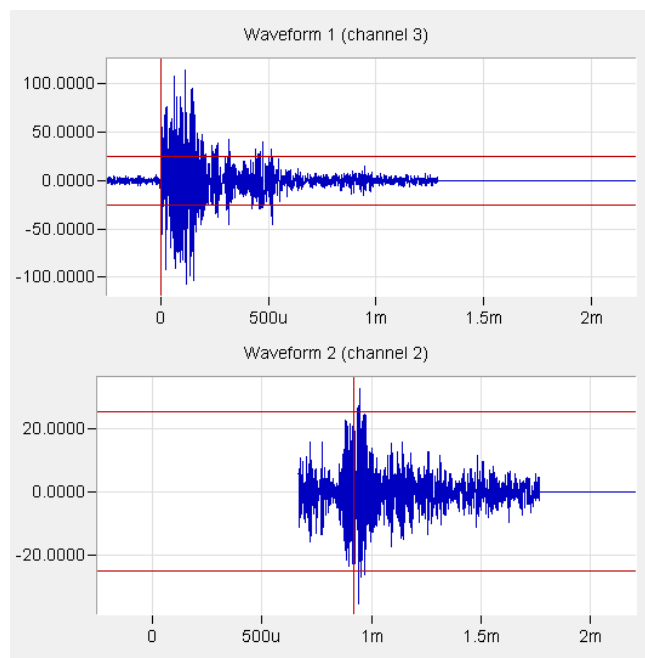

Figure 5. Example of AE event location along a piping section using two sensors.
3. **Location:** Linear time-difference of wave arrival locations are performed to evaluate source location whenever is practical. In other cases zone location is performed (Figures 5 and 6).